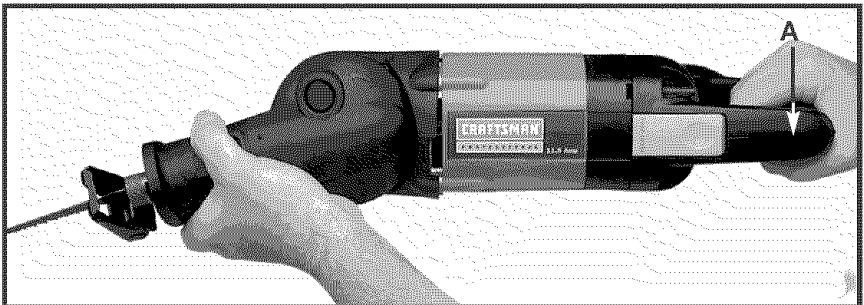
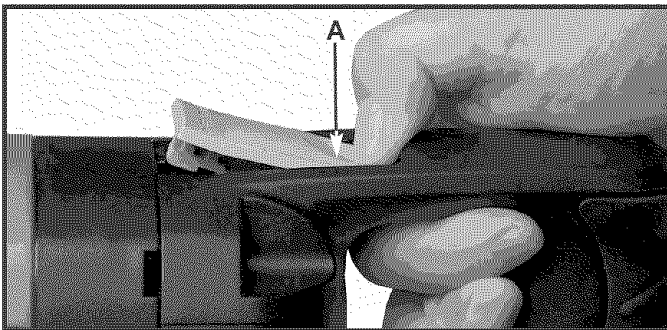

Fig. 14A
Fig. 14B
The handle (A) **Fig. 14A** can be rotated 90° to the right or 90° and 180° to the left. To rotate handle, depress locking lever (A) **Fig. 14B** and rotate handle to the desired position. After adjusting make sure handle is locked in position before using the saw.